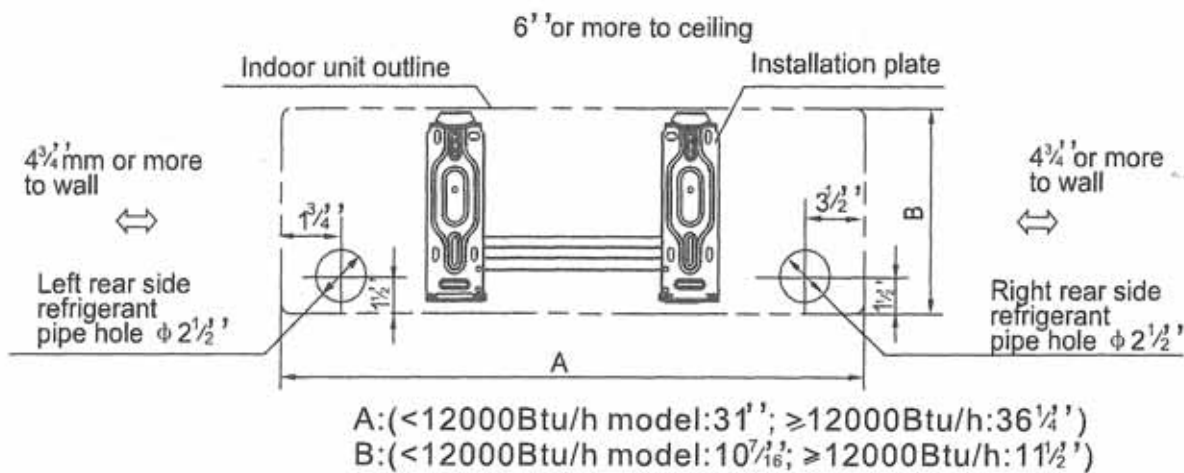

Fig.5
1. Determine hole positions according to the diagram detailed in Fig.5. Drill one (1) hole ($\phi 2\frac{1}{2}$ ") slanting slightly to outdoor side.